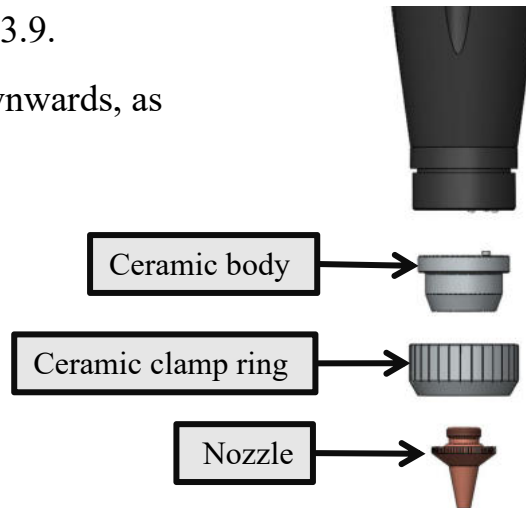

Figure 3.9
- ① Dry and clean auxiliary gas should be used when cutting. If there is water, oil and other impurities in the gas, mutations may occur at working clearance, and even cause work disorder of the sensor. It is suggested to use high purity oxygen and configure the gas dryer, oil-water separator and other devices.
- ② The sensor after being defaced should be cleaned with clean and dry cotton cloths, etc. Do not use liquid to clean the cutting head and ceramic, and then connect and assemble it properly after cleaning.
- ③ The ceramic body can be replaced after being damaged. After ceramic body is replaced, an initialization of electrical system together with the amplifier should be conducted through a reset operation.
- ④ The shape and size of the cutting nozzle would directly affect the characteristics of the sensor. Therefore, specified cutting nozzle should be used.
- ① Unscrew the nozzle counterclockwise, as shown in Figure 3.9.
- ② Unscrew the ceramic retaining ring counterclockwise, as shown in Figure 3.9.
- ③ Remove the ceramic vertically downwards, as shown in Figure 3.9.